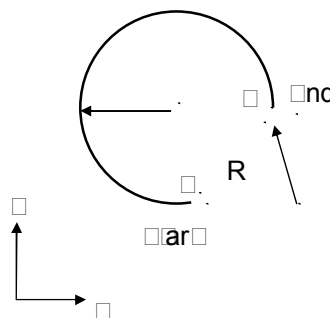

Fig. 3-10 Arc cutting
2. There are two different arc types available for arc cutting (Fig. 3-10):
In Fig. 3-10, an arc is cut with an angle  $< 180^\circ$  (+R):